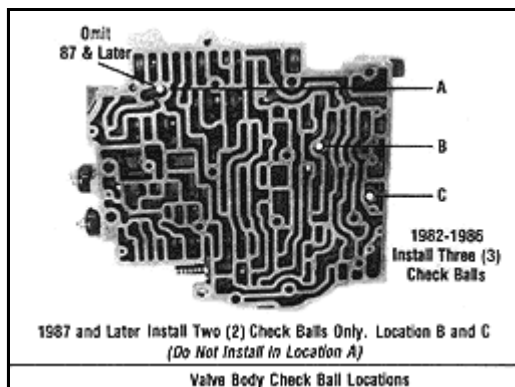
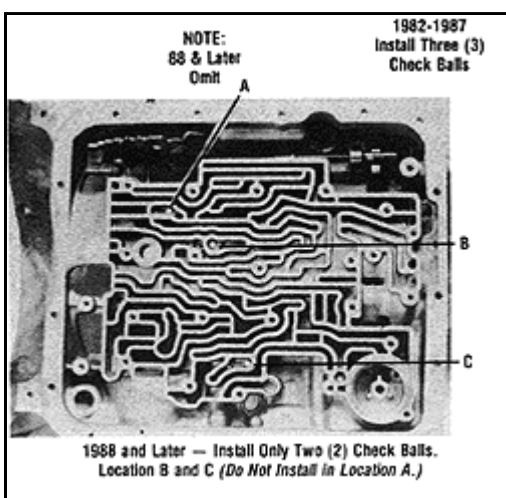

Figure 7
Figure 8
STEP 7 CHECK BALL LOCATIONS: **All applications:** VALVE BODY: Install check balls in the valve body as indicated (**See Figure 7**) CASE: Install three (3) check balls in the case as shown (**See Figure 8**). Use grease to hold check balls in place. 1988 AND LATER: Install two (2) check balls in the case as shown (**See Figure 8**). Use grease to hold check balls in place.